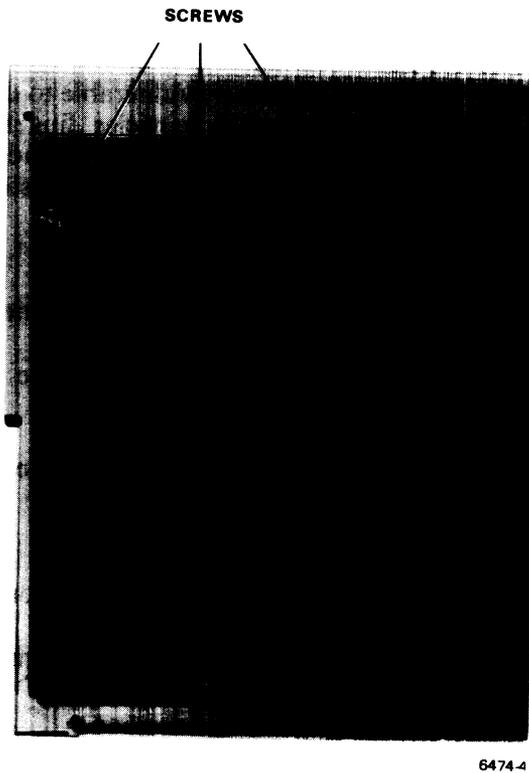

Figure 5-1 Prefilter
6. Vacuum the outer face of the prefilter (Figure 5-1). If there is excessive dirt on the prefilter, remove the filter and clean it with a mild liquid detergent and warm water. Using the exhaust of the vacuum cleaner, air-dry the filter completely before reinstalling it.